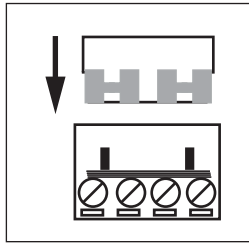

Fig 4 Continuity link
- 3. If a continuity test is to be done, it should be carried out before securing the call point to the backbox (step 4). Insert the continuity links supplied with the backbox (**Fig 4**) into the terminal blocks before testing. After testing for continuity remove the connectors and store for re-use.